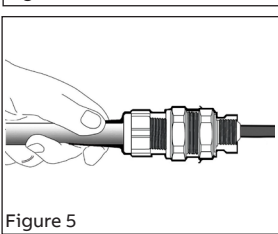

Figure 5
- Feed cable through gland nut opening and push until cable armor hits end stop (Figure 5).